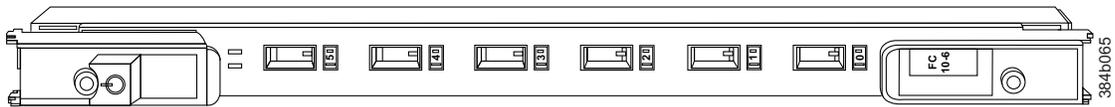

Figure 58. FC10-6 port blade, ports 0-5 from right to left
- Figure 58 on page 146 shows an FC10-6 port blade